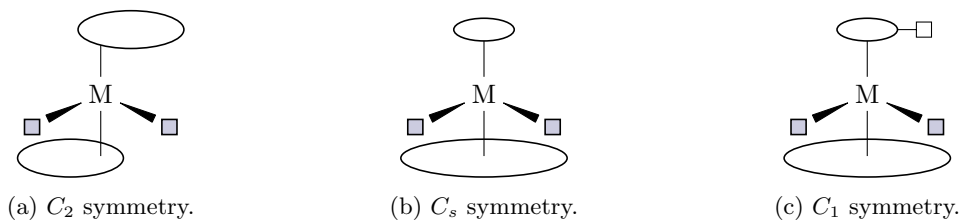

Figure 5.3: Polypropylene-type catalysts.
- In Figure 5.3, boxes are open coordination sites; circles are space-filling ligands.